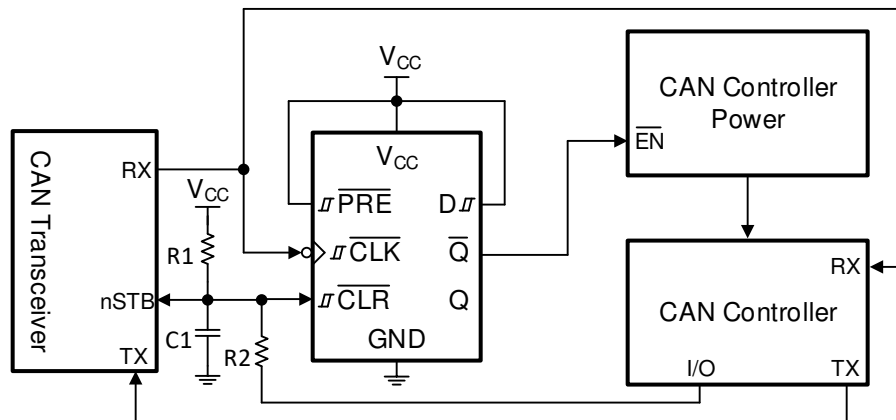

Figure 12. Power Enable Using CAN Wake-up Request
With the SN74HCS72-Q1, a power on reset circuit only requires a resistor (R) and capacitor (C) to create a delay. The R and C values create a delay that is approximately  $2.2 \times RC$ . In this application, it is desired to have the output ( $\bar{Q}$ ) in the HIGH state at startup, so R1 and C1 are connected directly to the  $\bar{CLR}$  pin, as shown in Figure 12. A second resistor is needed to limit the current into the CAN controller when it sets the circuit back into standby mode. It is required for the R1 resistor to be at least ten times larger than R2 to avoid a divider circuit ( $R2 \leq 10R1$ ).